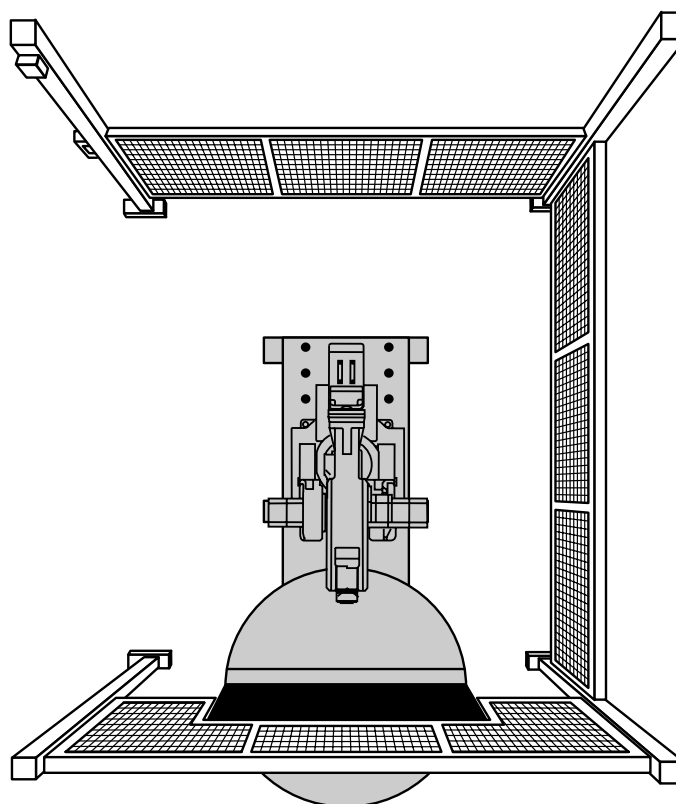

Figure 4-9 Centering the Front Wall Over the Positioner
- Connect rear wall, bottom section to fence post and gate post (see Figure 4-9, Step A).
- Connect a fence post to front end of right wall, bottom section (see Figure 4-9, Step B).
- Raise walls and bolt them together at corner post (see Figure 4-9, Step C).
- Connect a fence post to left side of front wall, top section (see Figure 4-9, Step D).